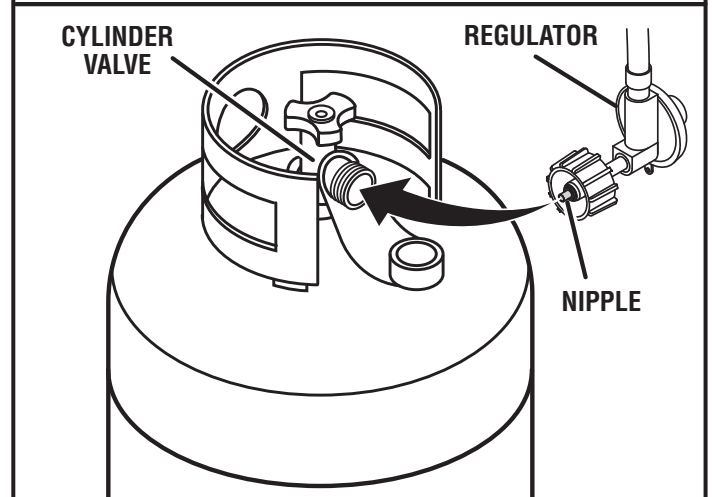

Fig. 24
- Using a clean paint brush and a 50/50 mixture of mild soap and water, brush soapy solution over areas indicated by arrows in figure 24.